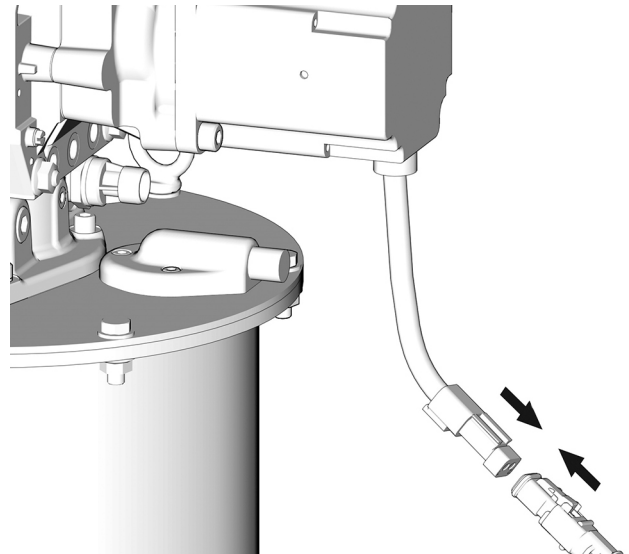

FIG. 9
11. Reconnect the power to the system (FIG. 9).